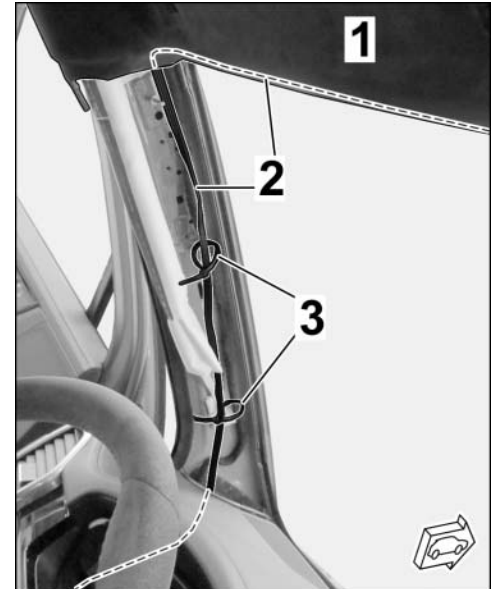

Figure 14
- Roof console → under headliner along windscreen frame → left A-pillar (top, if required in the cable duct) → along A-pillar → (⇒ *Figure 14*) → fuse carrier in footwell (left) → BK 0.52 line → ground pin 13 (MB13)